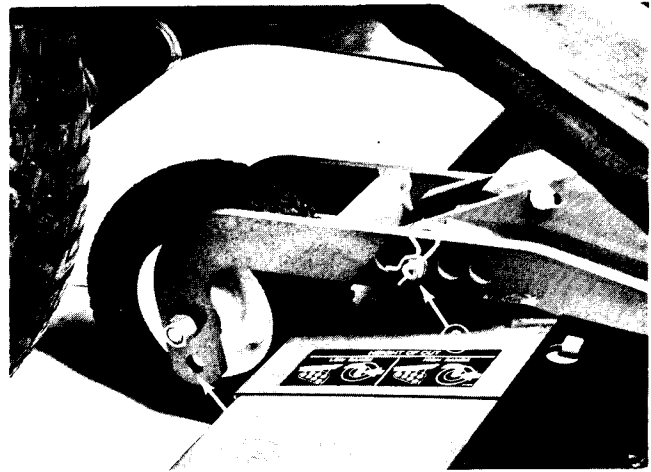
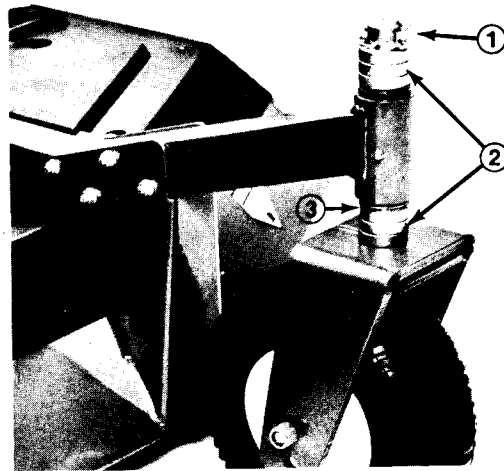

Figure 5
Figure 6
1. Adjust all cutting units to highest height-of-cut. Position castor wheel axles in lower castor fork holes (Fig. 5, 6). On front cutting unit, reposition two rear castor's clevis pins to highest height-of-cut setting (Fig. 5). Move all castor spacers to the underside of the castor arms (Fig. 6). Do not move washers. Leave them in their original position.